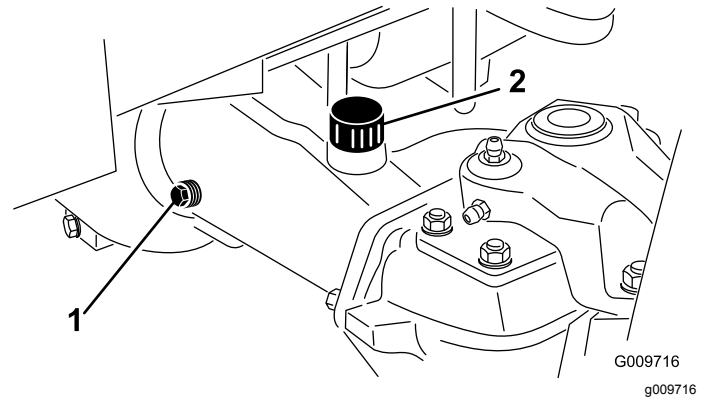

Figure 68
2. Remove a check plug from 1 end of the axle (Figure 68) and make sure that the lubricant is up to the bottom of the hole.
3. If the level is low, remove the fill plug (Figure 68) and add enough lubricant to bring the level up to the bottom of the check plug holes.